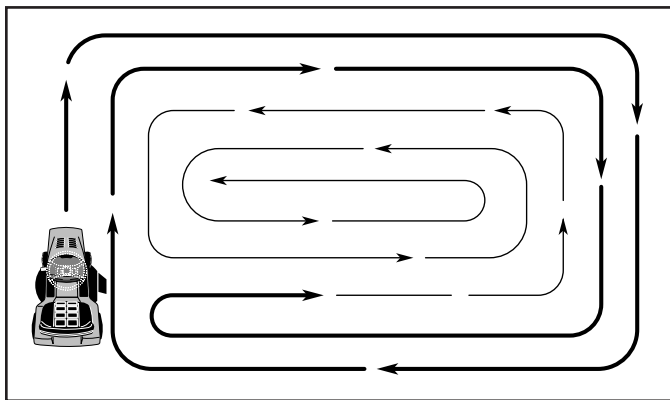

Fig. 28
- When mowing large areas, start by turning to the right so that clippings will discharge away from shrubs, fences, driveways, etc. After one or two rounds, mow in the opposite direction making left hand turns until finished (See Fig. 28).